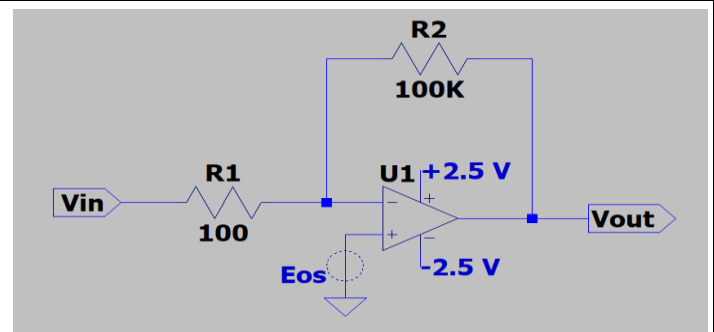
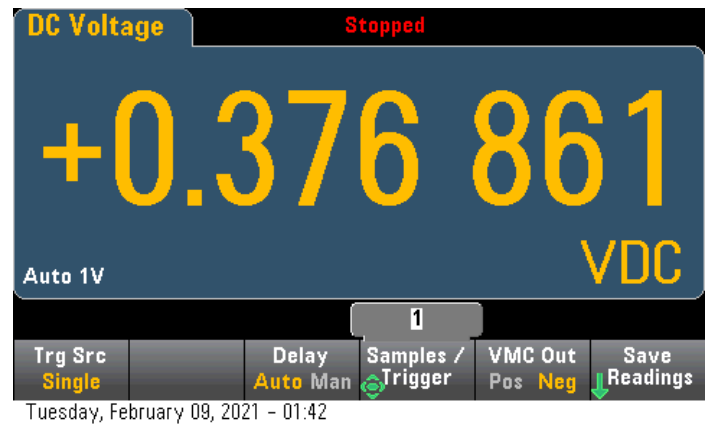

Figure 9: Non-Inverting Op Amp Schematic, Made with LTspice
Figure 10: Output Voltage Reading From DMM
The goal of this second experiment is to measure the E_{os} , which is the Referred to Input error (RTI). This is also referred to as the input offset voltage. This is simply the voltage required to be applied at the input to get an output of 0 V. In a non-inverting topology, the input voltage is connected to the positive input terminal of the op amp. However, for this experiment, it must be grounded. Figure 9 below shows the schematic of such configuration.
Based on the resistor values specified in the schematic in Figure 9, and equation (7), we can conclude that there is a gain of 1001. This E_{os} , the offset voltage of the op amp, is usually very small. The datasheet of the OPA2337 claims that the op amp has a typical input offset voltage of 0.5 mV [2]. Figure 10 below shows the output voltage reading from the Digital Multimeter. Based on equation (7), we can calculate the E_{os} by simply dividing this output value by the gain. E_{os} is then equal to 0.38 mV. Based on the value from the datasheet, that is an error of 24.4%.